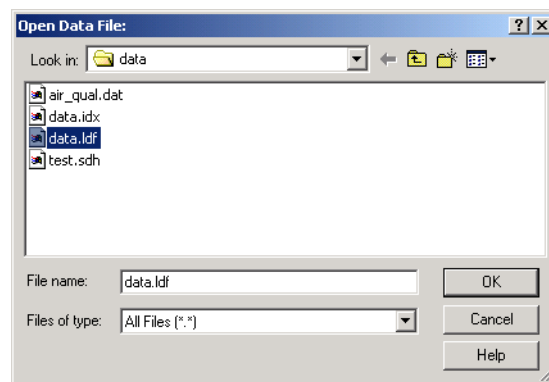

Figure 3-1 Open Data File dialog
- Step 2** Select **File=>Open Data Source**. The **Open Data File** dialog appears as shown in Figure 3-1.